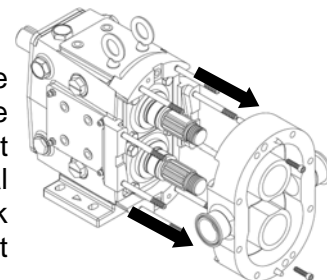

Figure 27: Removing Pump Body
5) Remove the two body hold down bolts using the appropriate driver. Pull the pump body off by sliding it along the studs (Figure 27). If the body is stuck, use a soft mallet to tap the body. Inspect the body for excessive wear, clean, and continue on to seal maintenance. It is important to reassemble the pump body back onto the original gear case because the shafts are shimmed for that particular body.